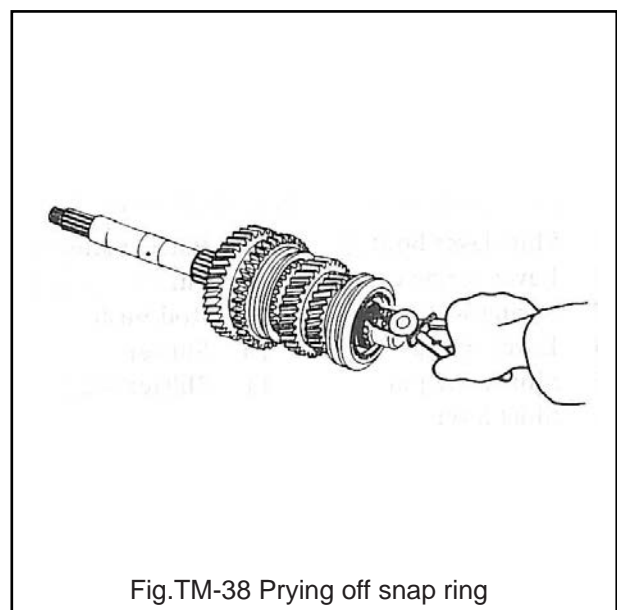

Fig.TM-38 Prying off snap ring
1.Pry off snap ring on the front end of main shaft , and remove 3 rd & 4 th synchromesh assembly , bulk ring , 3 rd gear and 3rd gear needle bearing. See FigureTM-38.